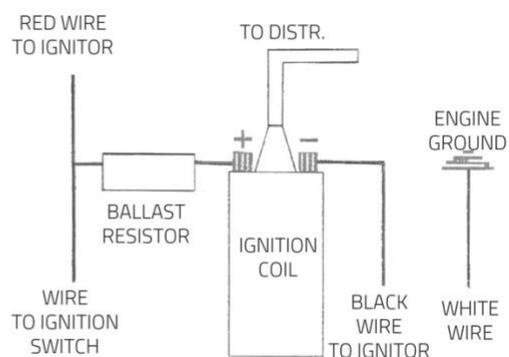

FIGURE 2
5. The red wire from the Ignitor must be connected to the positive (+) side of the coil. The black wire must be connected to the negative (-) side of the coil. (See Figure 2)
13. Connect the Ignitor red wire to the ignition switch side of the coil. (See Figure 2).